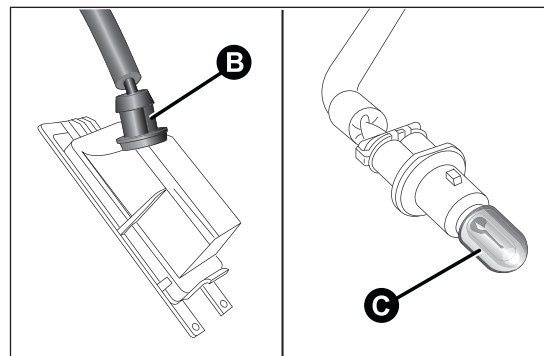

fig. 142
- ❑ turn the bulb holder B fig. 142 anticlockwise, extract the bulb C and replace it;